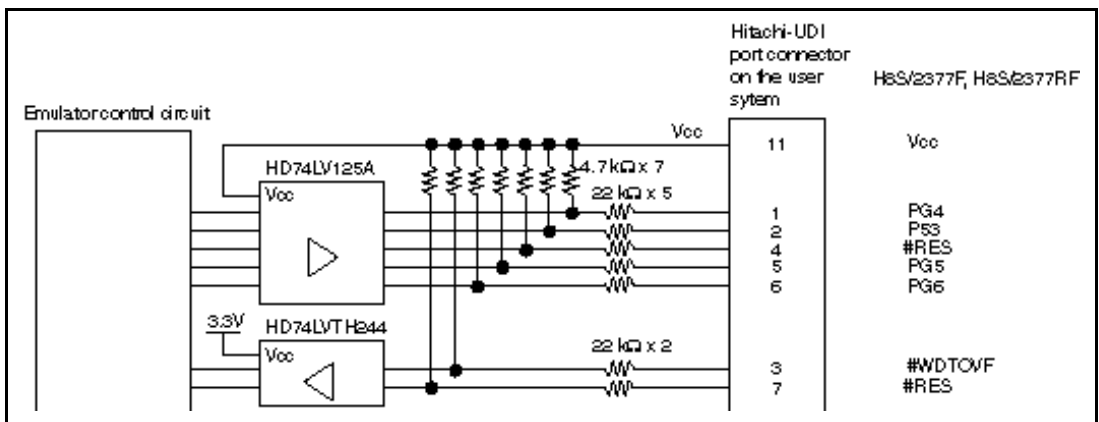

Figure 4.5 Interface Circuit in the Emulator (Reference)
- Figure 4.5 shows the interface circuit in the emulator. Use this figure as a reference when determining the pull-up resistance value.**